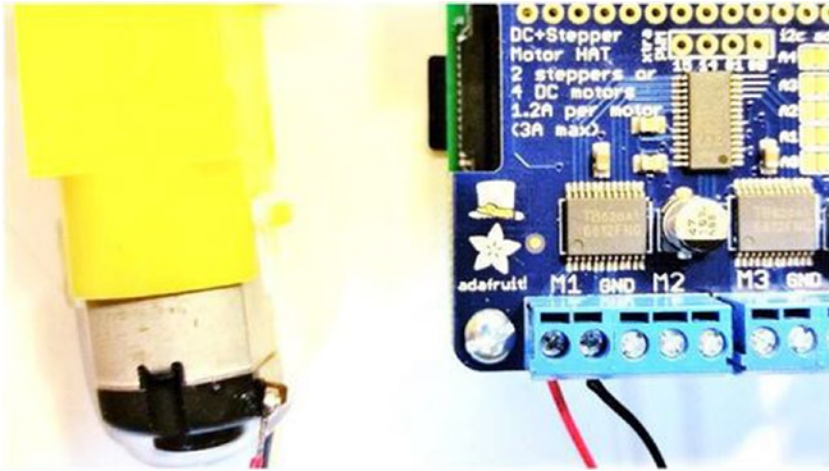

Figure 6-18. Motor connected to the Motor HAT
2. Insert one of the tinned leads into the hole on the side of the terminal block marked M1 (see Figure 6-18). It doesn't matter which wire goes to which port, as long as both wires go to different ports for the same driver (in this case, M1).